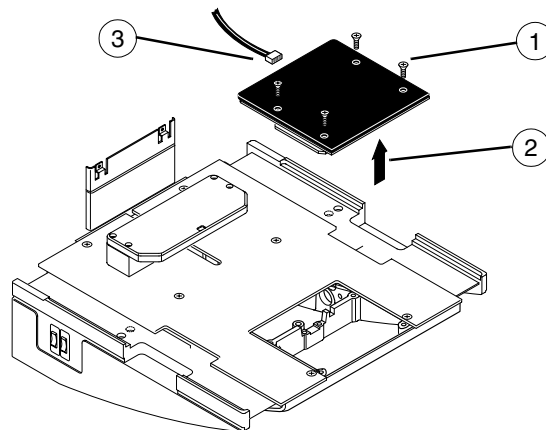

Figure H.24
- b) Unscrew the four screws of the AEC sensor cover (Fig. H.24, 1).
- c) Lift the AEC sensor assembly carefully from the cassette table (Fig. H.24, 2). Disconnect the AEC cable connector from the assembly (Fig. H.24, 3).